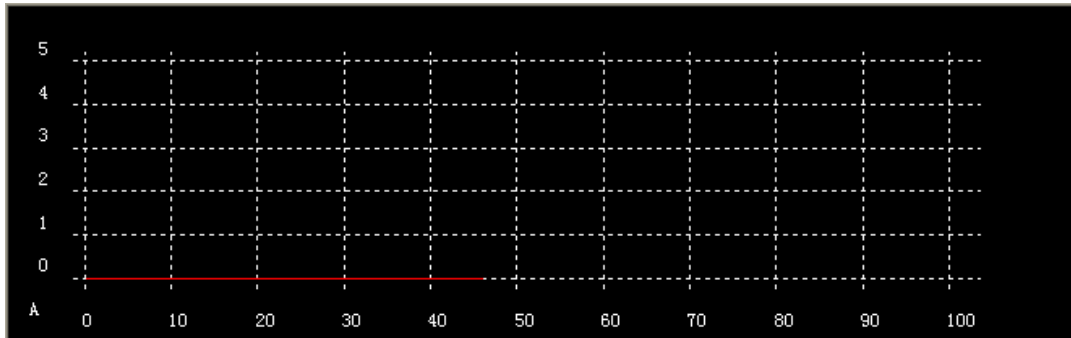

Figure 37
C. Current operating curve, as figure 37: